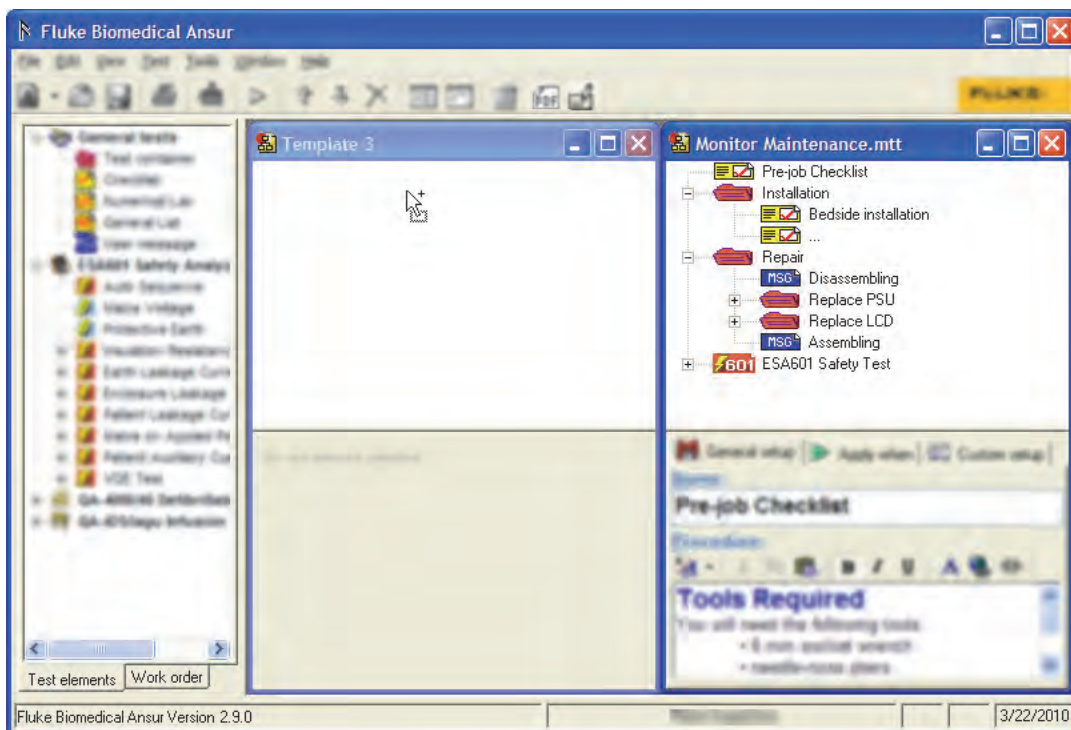

Figure 3-54. Copying Tests Between Templates
4. Click a test in one template, hold down the mouse button and drag it across to the other template. When hovering above the other template, the cursor changes to a “copy” cursor as shown in Figure 3-54.